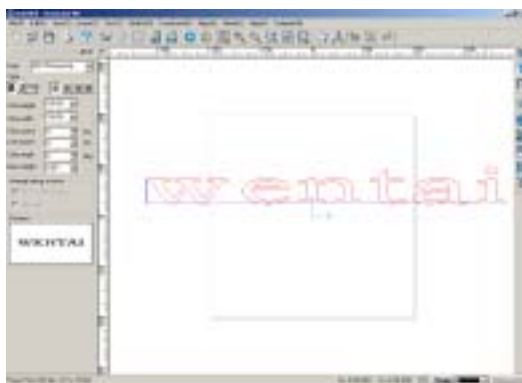

Fig. 7-6
2. Click on the icon , then the selected text will be overstricken. (Fig. 7-6)